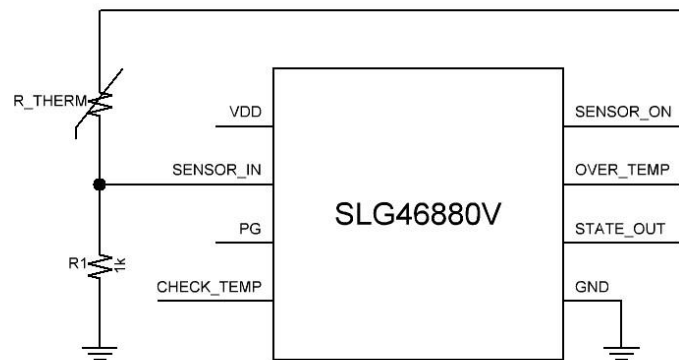

Figure 10: Example #1 Application Circuit
For a more specific use of this F(1) sequence, it can be used to flag an overtemperature condition while the state machine is transitioning to a new state and the device that the GreenPAK is sensing already has a power good condition. For this application, the SENSOR\_ON output is connected to one node of an NTC thermistor. Another resistor is connected to the other node of the thermistor and to ground to make a voltage divider for the SENSOR\_IN input (Figure 10).